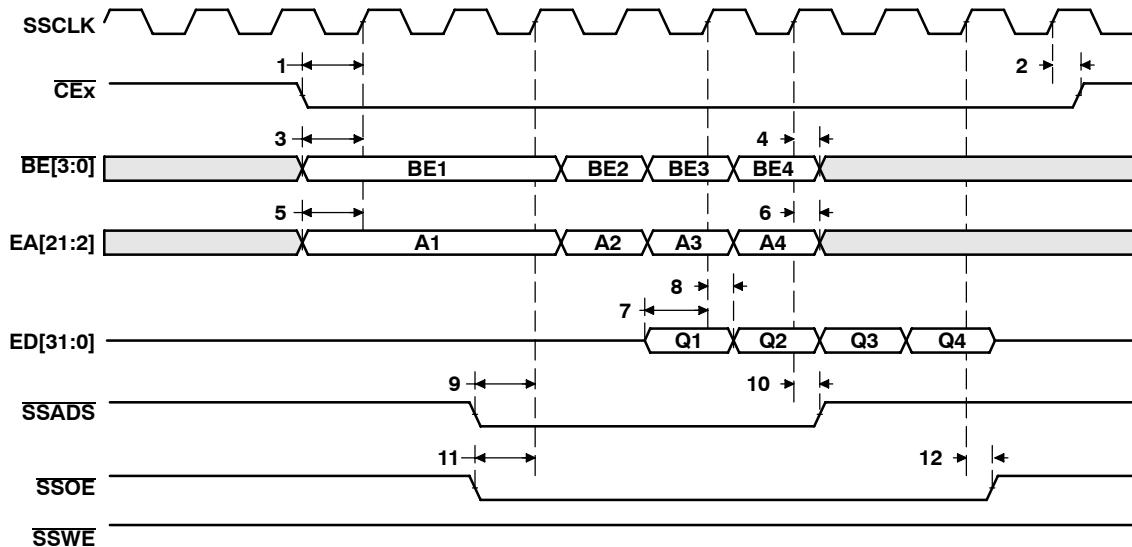
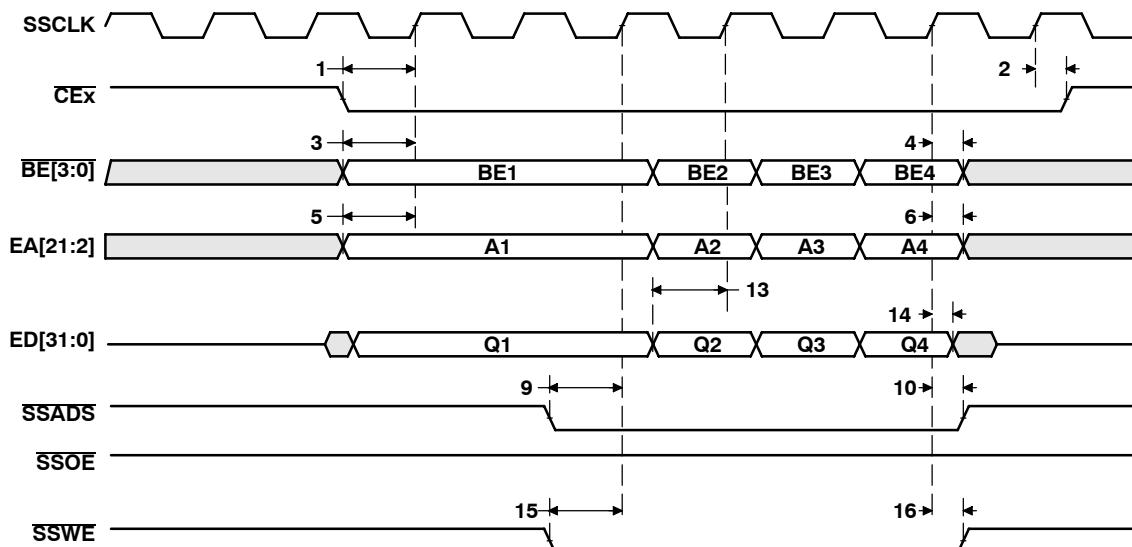

Figure 17. SBSRAM Read Timing (Full-Rate SSCLK)
Figure 18. SBSRAM Write Timing (Full-Rate SSCLK)
**timing requirements for synchronous-burst SRAM cycles (full-rate SSCLK) (see Figure 17)**
**switching characteristics over recommended operating conditions for synchronous-burst SRAM cycles† (full-rate SSCLK) (see Figure 17 and Figure 18)**